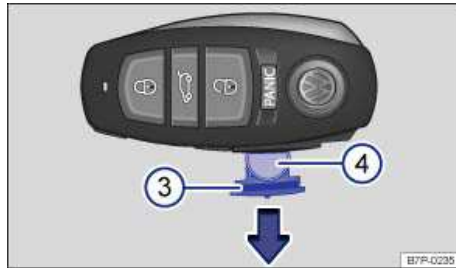

Fig. 25 Opening battery compartment of the remote control vehicle key.
- Pull the battery compartment out ⇒ fig. 25 \(3\) in the direction of the arrow and remove the battery \(4\).
- Push the cover as shown ⇒ fig. 25 and press it down (opposite to direction of the arrow) until you hear it click into place.
- Push the battery compartment in the direction opposite to the arrow ⇒ fig. 25 back into the remote control vehicle key fob.